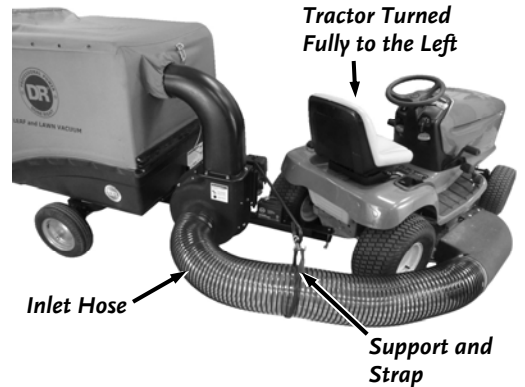

Figure 53
3. Turn the Tractor all the way to the left, while watching the Hose (**Figure 53**). The Hose should not become too taut to twist or damage your Lawn Deck Adapter.
NOTE: The Tractor must be turned fully to the left (**Figure 53**).